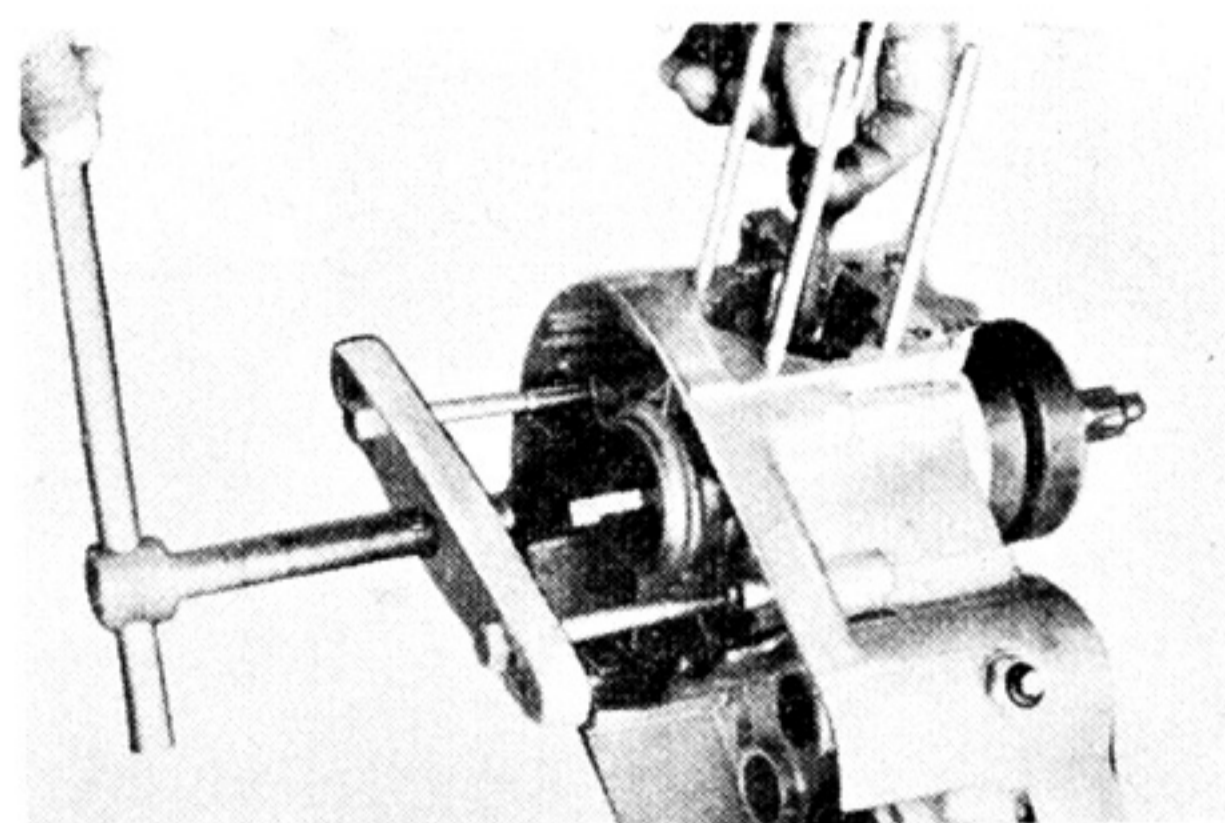

Fig. 3-16-3
- a. Remove the crankshaft ass'y, with the crankcase separating tool. (Fig. 3-16-3)